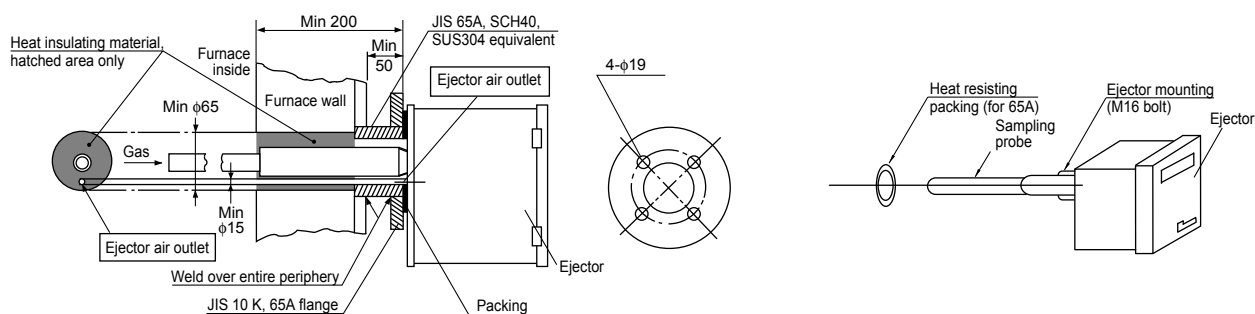

Fig. 4-1 Ejector mounting (unit: mm)
- (4) Do not completely close the route between the ejector air outlet (see Fig. 4-1) and furnace inside with thermal insulating material or others. Provide at least  $\phi 15$  of hole straight from the ejector air outlet. A pipe of about 15 mm of inner diameter together with heat insulating material may be wound on the probe by means of stainless steel wire.